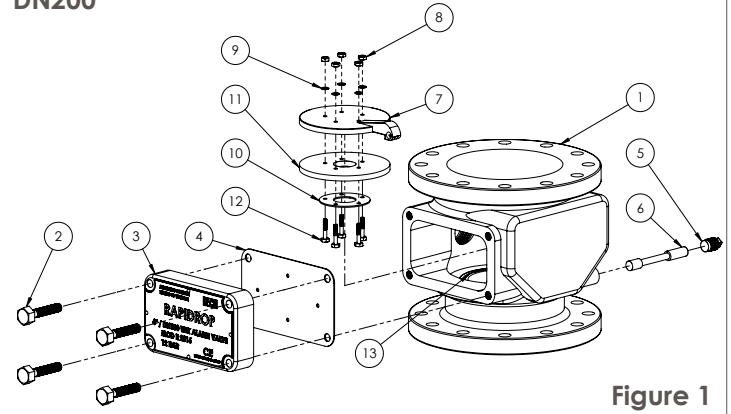

Figure 1
### Maintenance (See Figure 1&2)
4. After the system is fully drained, remove the cover plate (3).
5. Remove the clapper shaft retaining plug(s) (5) and the clapper shaft (6).
6. Clean thoroughly removing any accumulated deposits. Inspect the clapper gasket (11).
7. If the clapper gasket (11) is worn or damaged, unscrew the clapper nut (8) and disassemble clapper components (7-12).
8. Replace damaged components with genuine replacement parts, and reassemble clapper as shown in Figure 1.
9. Inspect the clapper seat ring (13) inside the valve body for lodgement of dirt, bruising or scoring. Clean thoroughly if necessary.
10. A damaged clapper seat ring (13) can be carefully polished using lapping compound. If the damage is extensive then a complete new valve should be fitted.
11. After the inspection and replacement of parts, reinstall the clapper assembly (7-12) and fix it with the clapper shaft (6).
12. Lock the clapper shaft (6) with clapper shaft retaining plug(s) (5) and reinstall cover plate gasket (4) and cover plate (3).